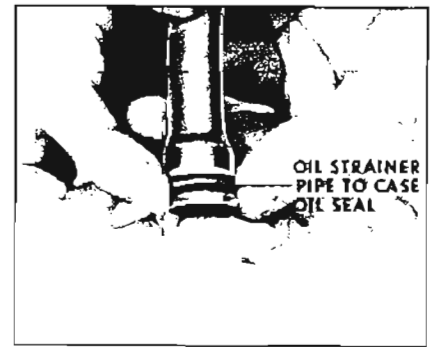

Figure 5-106
3. Examine oil strainer or filter to case oil seal. If nicked, torn or worn, remove seal. See Figure 5-106.